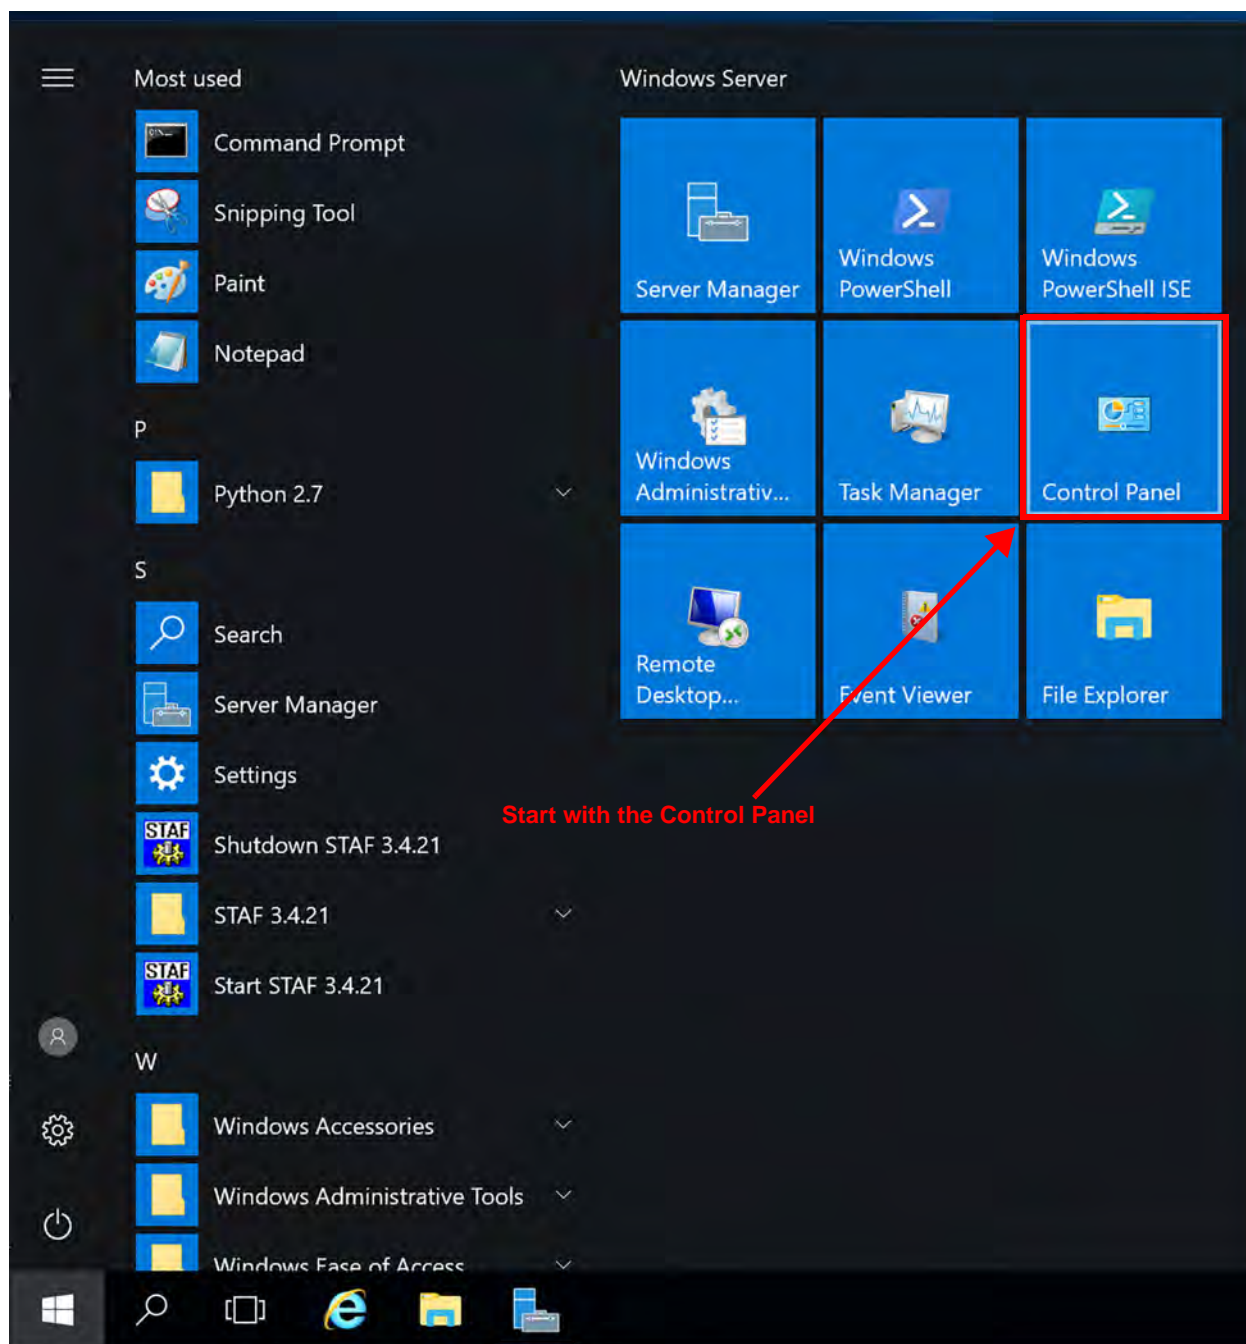

Figure H.1: Windows Server 2016/2019, Start Menu
1. Open the Control Panel (Figure H.1).